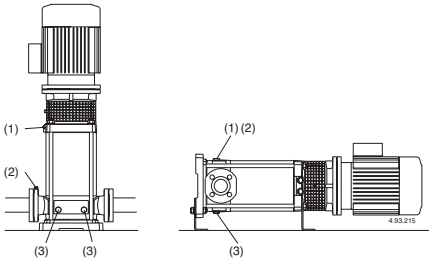
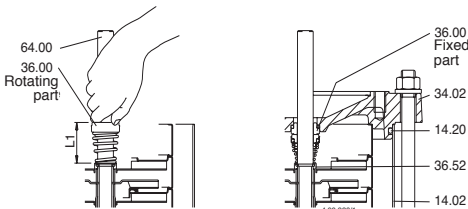

Fig.4 (1) Filling and air vent
Fig.5 Inserting the mechanical seal
**When the pump is located above the water level** (suction lift operation, **fig. 3A**) or with a positive suction head which is too low (less than 1 m) to open the non-return valve, fill the suction pipe and the pump through the priming hole (1) (**fig. 4**).
(2) Suction side air vent
(3) Draining
**When the liquid level on the suction side is above the pump** (inflow under positive suction head, **fig. 3B**), fill the pump by slowly and completely opening the inflow gate valve while keeping the delivery gate valve and air vent holes (1), (2) (**fig.4**) open to release the air.
**During filling, keep the air vent holes (1)(2) open only if the inflowing liquid presents no possible danger on account of its nature, temperature or pressure.**
Close the air vent holes (1), (2) (**fig.4**), for MXV-B, MXV(L) 25-32-40 e MXV(L)4 25-32-40 Tighten the needle screw (14.17) in the drainage plug (14.12) (**fig. 4b**) and close the air vent hole (14.04).
suction pipe couplings are perfectly sealed and tighten the air vent plug (2) and the draining plugs (3) on the suction side (**fig.4**).
Or, after draining, perform the washing operation, inserting clean water (at least 40 litres) into the filling hole (1) on the delivery side and allowing it to come out of the draining hole (3) on the suction side (**fig.4**).
Before dismantling, disconnect the power cable from the terminal box, close the gate valves in the suction and delivery pipes and empty the pump casing (**fig. 4**). For dismantling and re-assembly refer to the section drawing (**section 14.**) and **figures 5, 6**.
Push the rotating part as far as the shoulder ring (36.52) on the shaft (64.00), without compressing the spring. Check the length before and after insertion and raise the rotating ring as far as the initial length (L1 in fig.5).